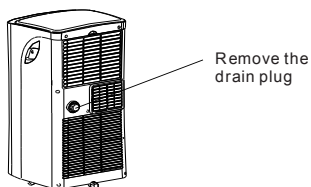

Fig.19
- In dehumidifying mode, remove the drain plug from the back of the unit. You may also connect a 3/4" (1.9cm) garden hose (sold separately) onto the 5/8" (1.58cm) drain connector on the unit. For models without a drain connector, just attach the drain hose to the hole. Place the open end of the hose directly over the drain area in your basement floor. Please refer to Fig.19 & 20.
- Remove the rubber plug at the back of the unit and attach a hose to drain outlet. Place the open end of the hose directly over the drain area in your basement floor (See Fig.19 & 20).